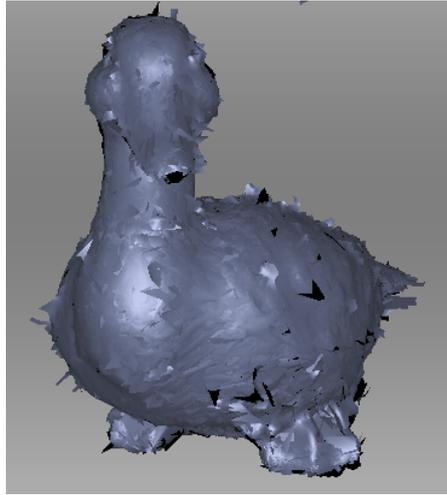

Figure 68: Alignment result.
3. Click *Align*. The result should be as Figure 68 depicts. If you are dissatisfied with this result, click  and follow the recommendations in Manual Rigid Alignment Using Point Specification.